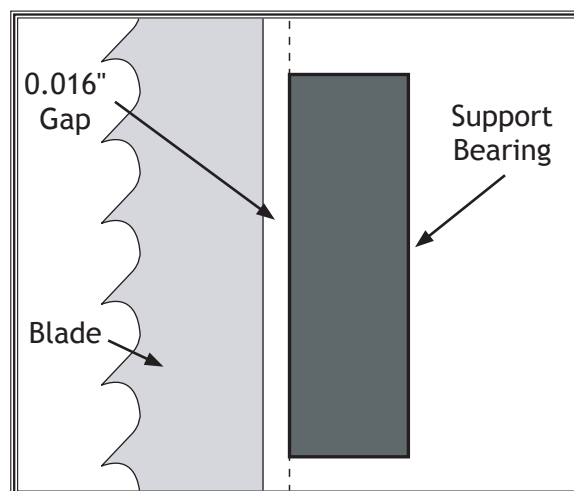
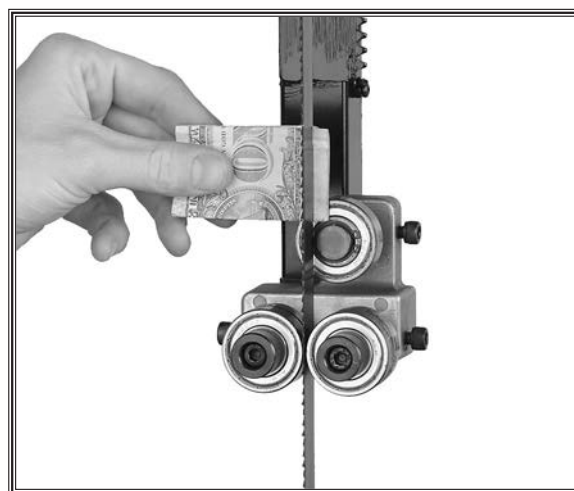

Figure 33. Blade aligned 0.016" away from the bearing edge.
Figure 34. Example of dollar bill folded twice to make an approximate 0.016" gauge.
7. Using a feeler gauge between the support bearing and the blade, position the bearing 0.016" away from the back of the blade, as illustrated in **Figure 33**.
- Note:** For a quick gauge, fold a crisp dollar bill in half twice (four thicknesses of a dollar bill is approximately 0.016") and place it between the support bearing and the blade as shown in **Figure 34**.
7. Using a feeler gauge, position the support bearing 0.016" away from the back of the blade, as illustrated in **Figure 33**, or use a dollar bill, as shown in **Figure 34** on **Page 25**.